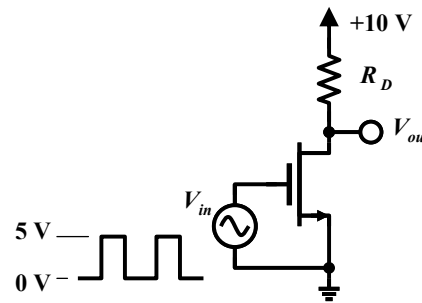

Figure 3-15 – A simple switching circuit (inverter).
Consider the circuit shown in Figure 3-15. When the input voltage is 0V, the device is off and no current flows through  $R_d$ . This means that the output voltage is just  $V_{out} = 10\text{V}$ . When the input voltage is +5V, however, then a very large drain current can flow. In this case, the drain current will then be limited by the drain resistor. That is, we can make  $V_{out} \approx 0$  by simply choosing  $R_d \geq 10/I_d$ ; a large drain resistor effectively makes the device look like a short-circuit in comparison, and it consequently determines the amount of current that will flow when the transistor is “on”.
- Build the circuit in Figure 3-15 with a drain resistance of  $R_d = 10\text{k}\Omega$ . Set the function generator to create a 5V square wave at a frequency of 1 kHz. Configure the oscilloscope to monitor  $V_{in}$  on CH1, and  $V_{out}$  on CH2. Record your observations.
The simple inverter circuit in Figure 3-15 has a problem: it doesn’t work as well for some loads! So see why, consider Figure 3-16a. In the on-state when the FET acts like a short there is no problem: the output voltage will always be close to zero volts as long as  $R_d$  is reasonably large. But in the off-state the FET acts like an open circuit, so the load resistance  $R_L$  and drain resistance make a voltage divider. The output voltage in the off state then depends critically on the load resistance, an undesirable situation. We’d like the circuit to behave the same way no matter what it is hooked up to (within reason of course; few circuits work well when driving a short).